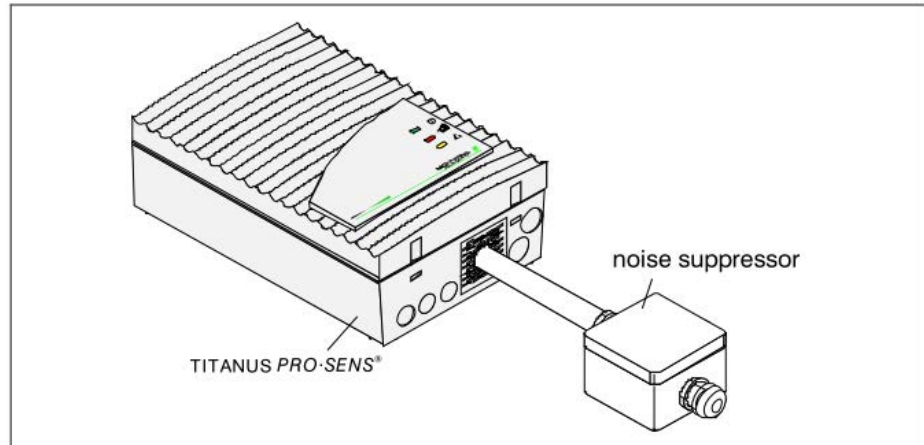

Fig. 6.10: Mounting of noise suppressor
3. When mounting the special filter pay attention to the air flow direction which is indicated on the type plate of the filter housing (refer to Fig. 6.10).